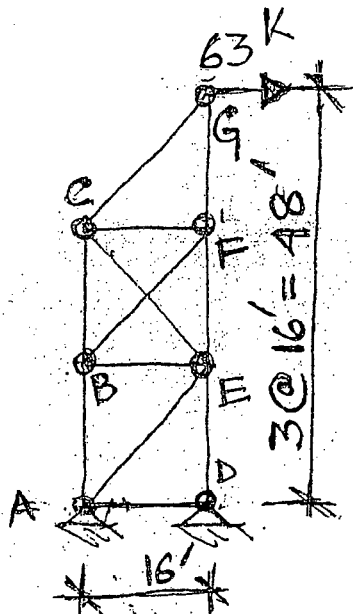

Fig. 9
5. (a) Analyze the truss in Fig. 9 by the consistent deformation method ( $EA = \text{constant}$  for all the bars). (27)